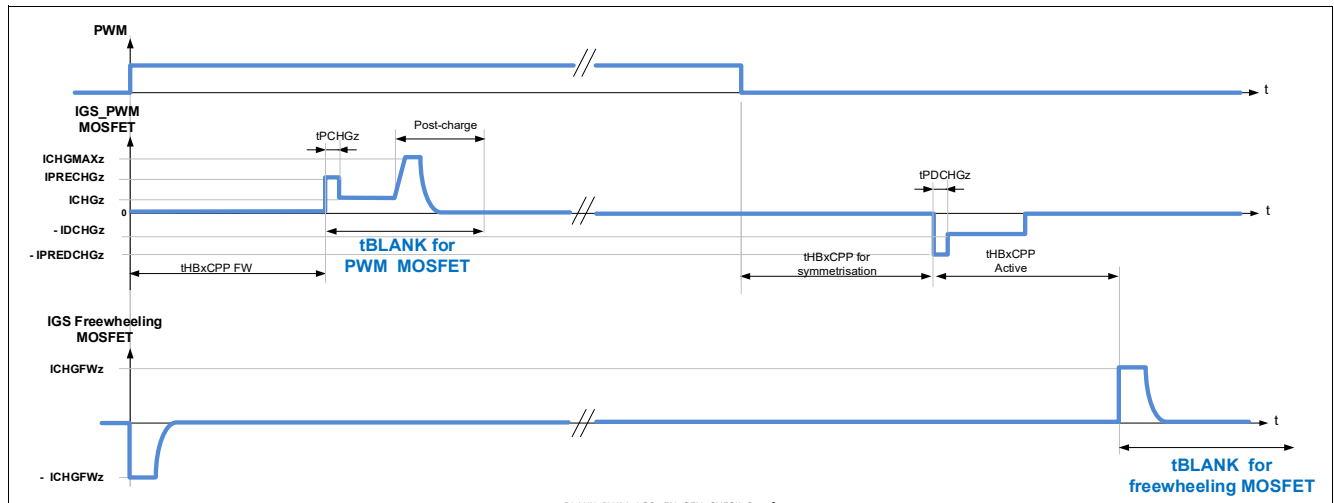

Figure 33 Blank time for half-bridges in PWM operation, detection of generator mode disabled (**EN_GEN_CHECK** = 0)
- The blank time of the PWM MOSFET starts at the expiration of the cross-current protection time of the FW MOSFET (**tHBxCCP FW**). Refer to **Figure 33**.
- The blank time of the FW MOSFET starts after expiration of the cross-current protection time at turn-off of the PWM MOSFET (**tHBxCCP Active**). Refer to **Figure 33**.